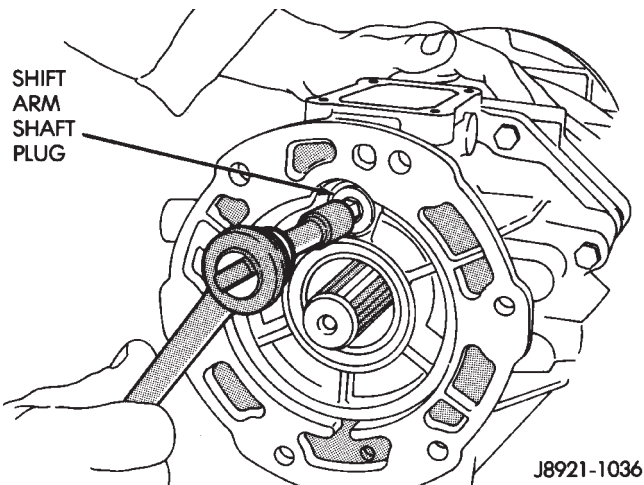

Fig. 6 Removing/Installing Shift Lever Shaft Plug
(7) Remove shift arm shaft plug (Fig. 6).